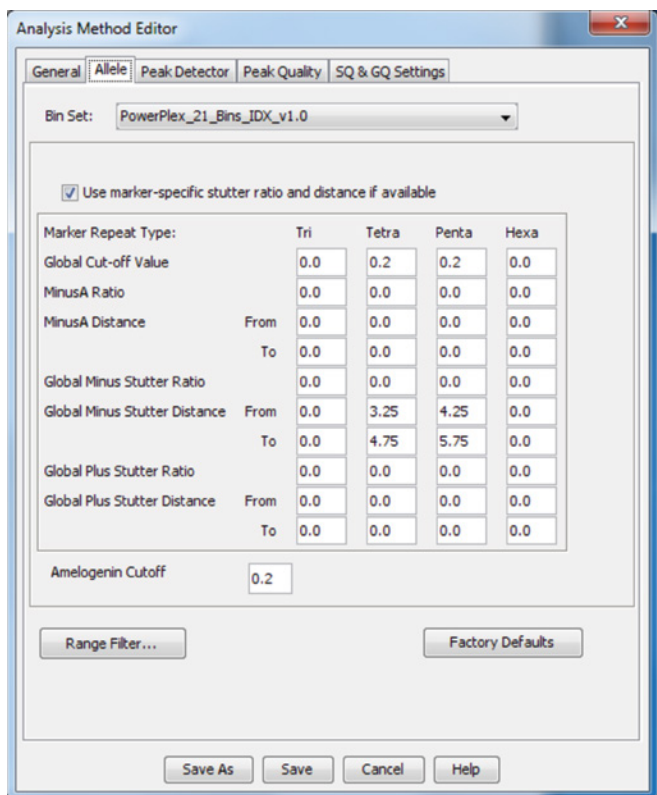

Figure 15. The GeneMapper® ID-X 'Allele' tab.
6. Select the 'Allele' tab (Figure 15).
8. We recommend the values shown in Figure 15 for proper filtering of stutter peaks when using the PowerPlex® 21 System. Ensure that the “Use marker-specific stutter ratio and distance if available” box is checked. Doing this will assign locus-specific stutter filters and distances from the imported stutter file. Ensure that the appropriate global filter is applied to the analysis method. For example, for a 20% filter enter “0.20” for the Amelogenin Cutoff and Global Cutoff Value for Tetra and Penta repeats. In-house validation should be performed.